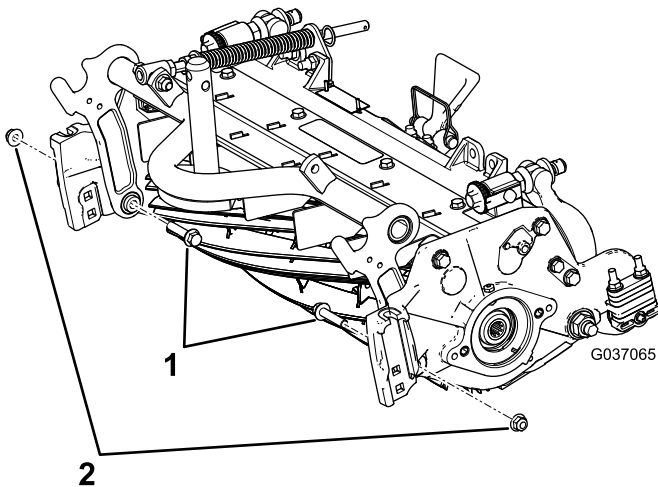

Figure 6
- B. Install the 2 existing flange-head bolts from the inside of the cutting unit, and secure them with the 3/8-inch flange locknuts (Figure 6).